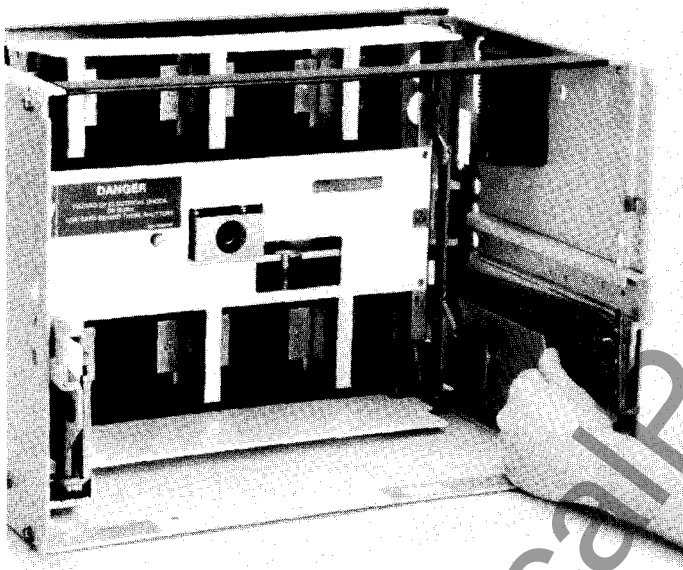

Figure 8. Shutter actuating lever pushed down to open the shutters.
2. Push down on the actuating lever, shown in Figure 8, to check that the upper and lower movable barriers operate properly. When the lever is released, the barriers should return to their closed positions.